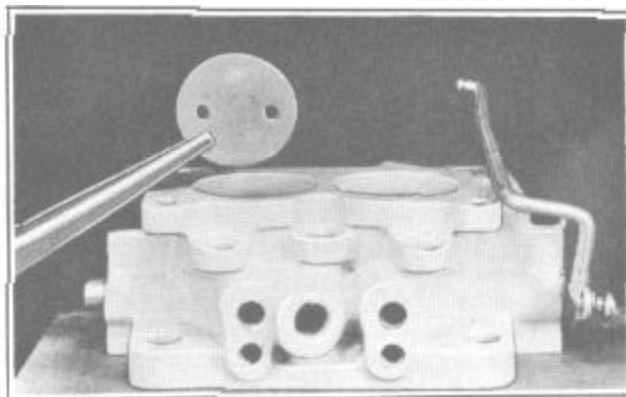

FIGURE 62
13. Remove throttle valve screws and throttle valves, Figure 62.